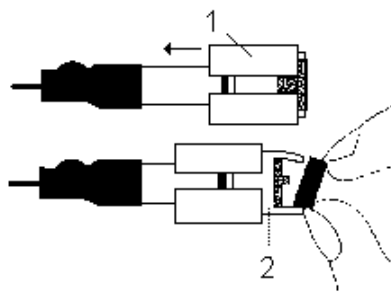

Fig. 7. Electrode assembly. The working electrode is fitted on the electrode shaft with electrode retaining ring (1) and held in place by a silicon holder (2).
4. Take out the WE contact (Fig. 7).
Always assemble the two halves of the cell body first, prior to fitting the working electrode assembly. To prevent the spacer from moving keep the ReactorCell with the inlet block down as illustrated in Fig. 7.